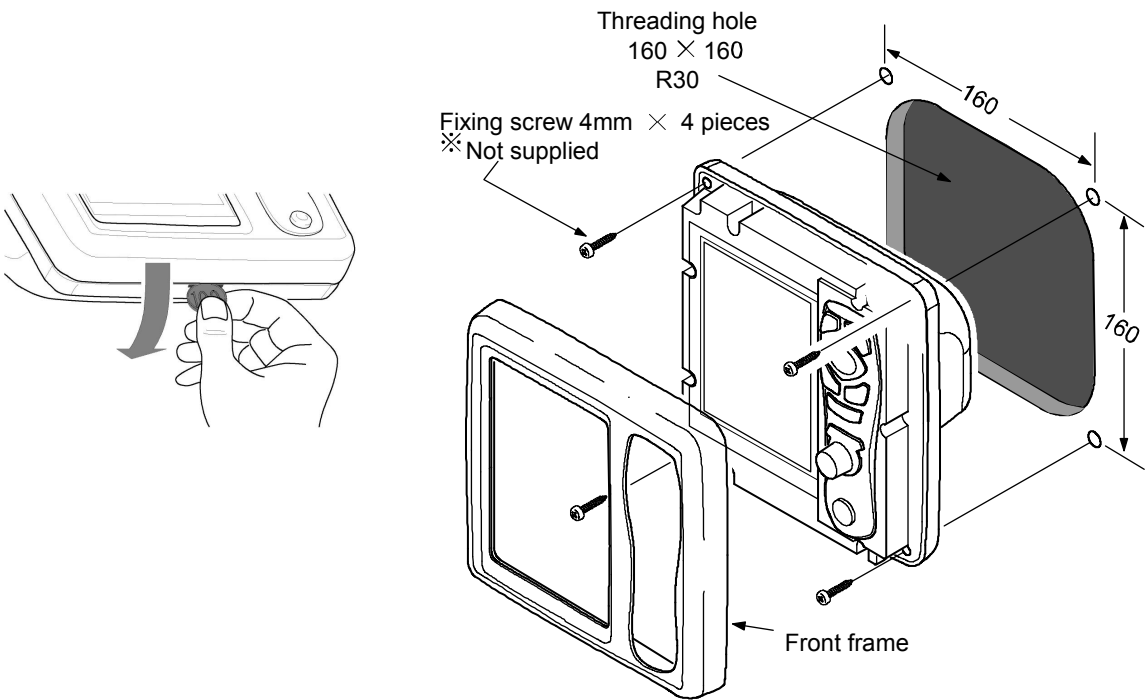
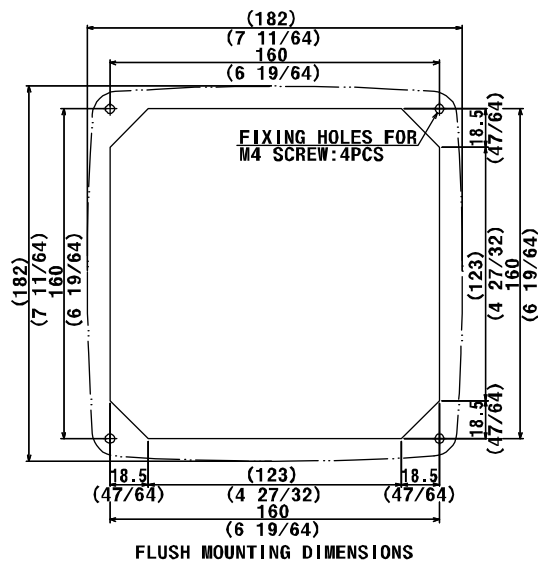

Figure 5.3 Flush-mount Installation
Figure 5.4 Work of flush-mount installation hole
- (1) Make a square hole (160mm x 160mm) at the location to be installed. (See Fig. 5.4.)
- (2) Turn counter-clockwise the knob bolt fixing CVS-126 Display unit to the mounting bracket to loosen it, push the unit to the left side and pull the unit upward. The mounting bracket and knob bolt are no longer used.
- (3) Confirm that the unit matches with the square holes. If not matched, correct the square hole.
- (4) Remove the front frame of CVS-126 Display unit, pulling it toward you. (See Fig. 5.3.)
- (5) Connect the connectors for power and transducer to the unit respectively.
- (6) Install the CVS-126 Display unit in the installing location (square hole) and fix it with four tapping screws (4mm) (M4 or pan-head). (Prepare 4mm screws suitable for thickness of installing location.)
- (7) Install the front frame removed in step (4).